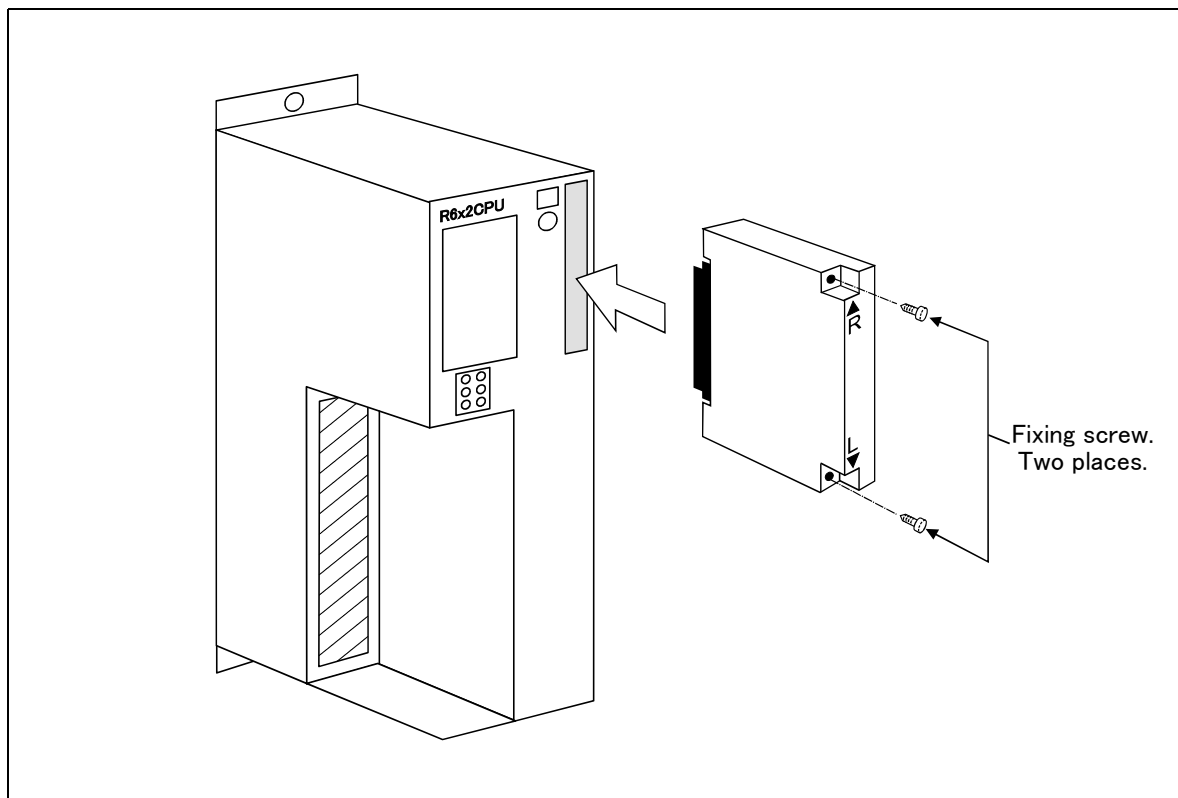

Fig.3-28 : Installation of extension memory cassette
- As shown in Fig. 3-28, insert the memory cassette all the way to the back with the "▲" facing up.